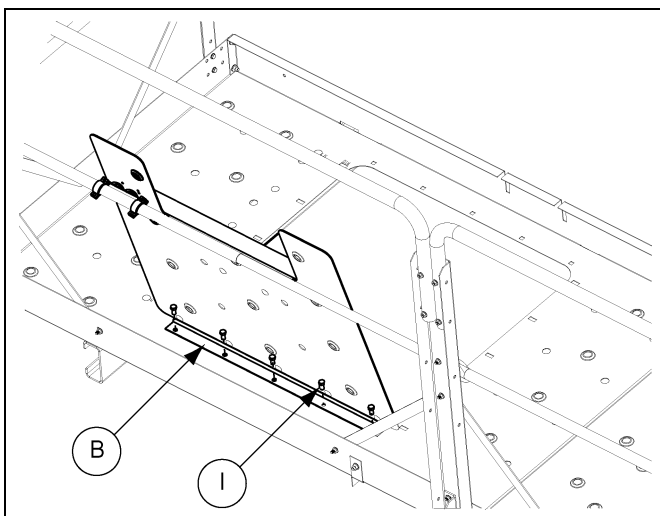

Figure 9D
- Align holes on the hatch hinge with holes along the deck opening closest to the kick plates. Install the hatch door to the decking using 3/8" x 3/4" bolts (S-7105) and nuts. (See Figure 9D.)